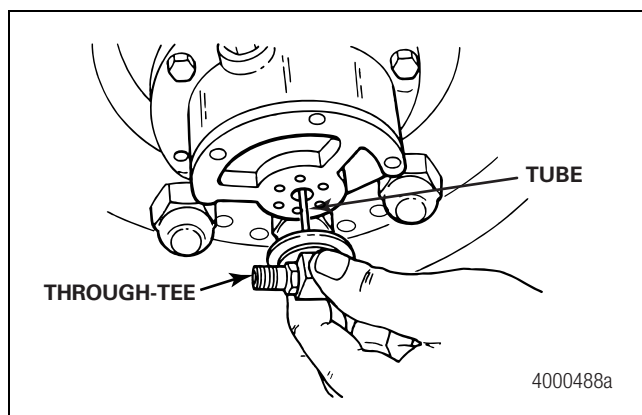

Figure 2.46
3. Carefully install the through-tee assembly STRAIGHT into the hubcap to insert the tube into the stator. When you insert the tube into the stator, it's normal to feel some resistance when the tube contacts the stator O-ring. Figure 2.46.